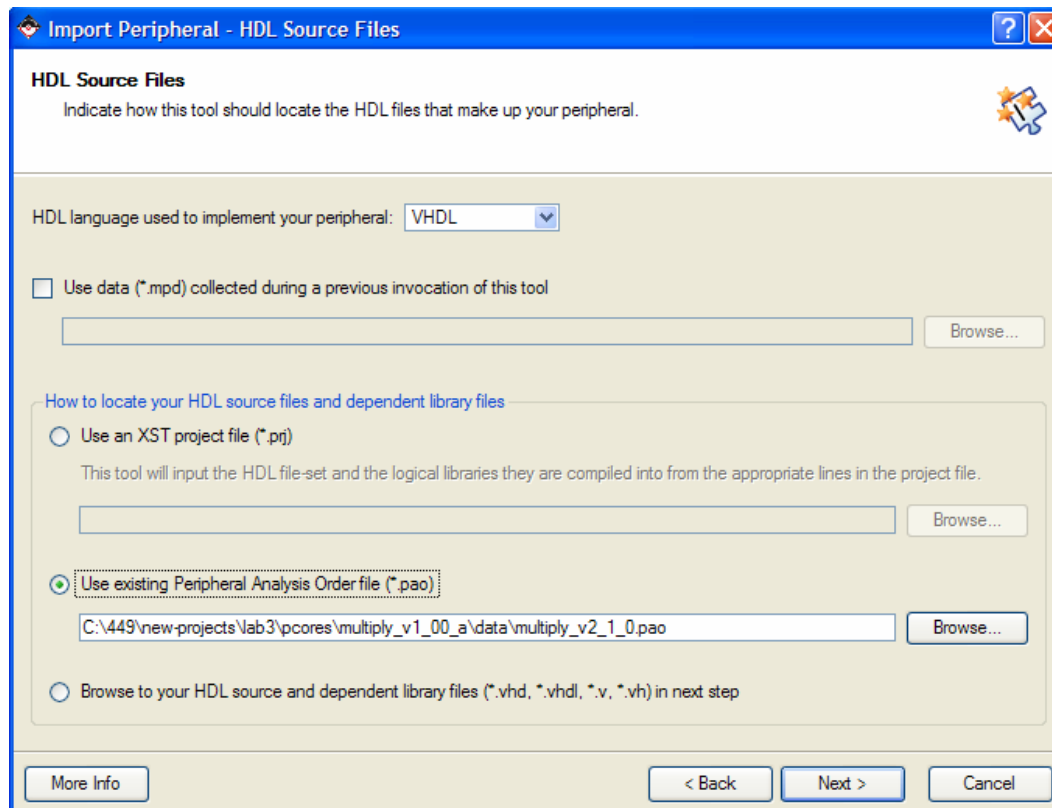

Figure 6. HDL Source Files
11. In the HDL Source Files window, select User existing Peripheral Analysis Order file (*.pao) to locate HDL source files and dependent library files. Browse to lab3\pcores\multiply_v1_00_a\data\multiply_v2_1_0.pao (Figure 6). Use HDL language as *Mixed* to implement your peripheral. Click Next.